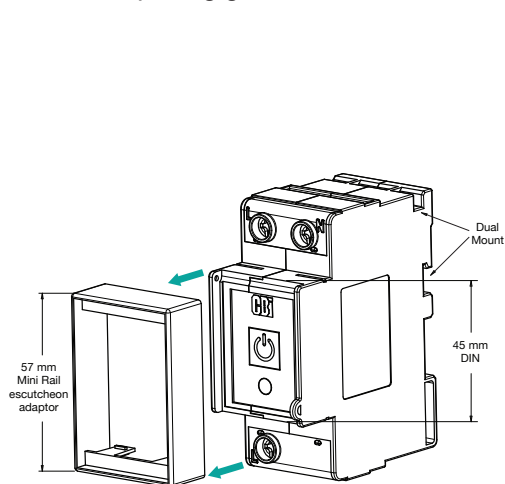

Figure 1: Escutcheon adaptor removal
3. Install the ASC on either mini rail or DIN rail (remove the escutcheon adaptor for DIN, see Figure 1)